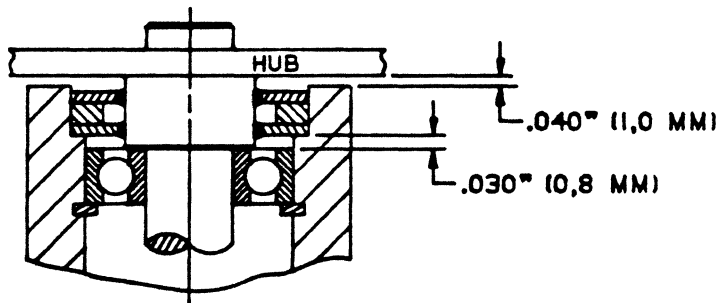

FIGURE 8
- Shaft length dedicated to the seal should provide at least $.040"$ (1mm) of shaft extension above the top pole piece in the direction of the disk hub and at least $.030"$ (.8mm) below the bottom pole piece in the direction of the adjacent bearing (Fig. 8).